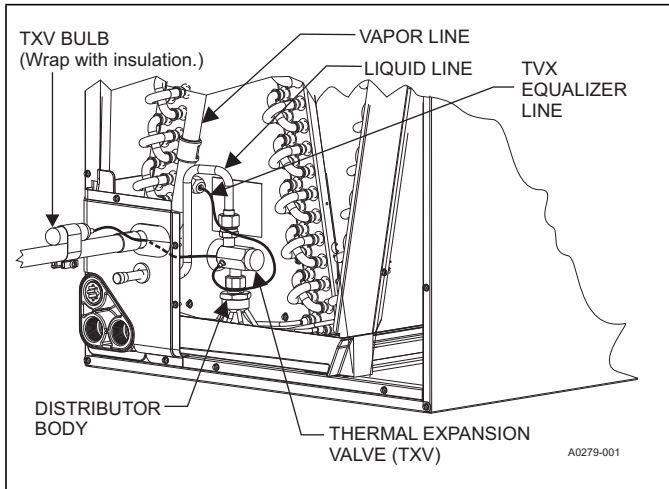

FIGURE 6: TXV Bulb Installation
- Install the TXV equalizer line onto the vapor line by hand tightening the 1/4" SAE coupling nut to the equalizer fitting, and apply an additional 1/3 turn to seal. See Figure 6.
- Install the TXV bulb to the vapor line near the cabinet, using the bulb clamp(s) furnished with the TXV assembly. Ensure the bulb is making maximum contact. See Figures 6 and 7, and accomplish the following: